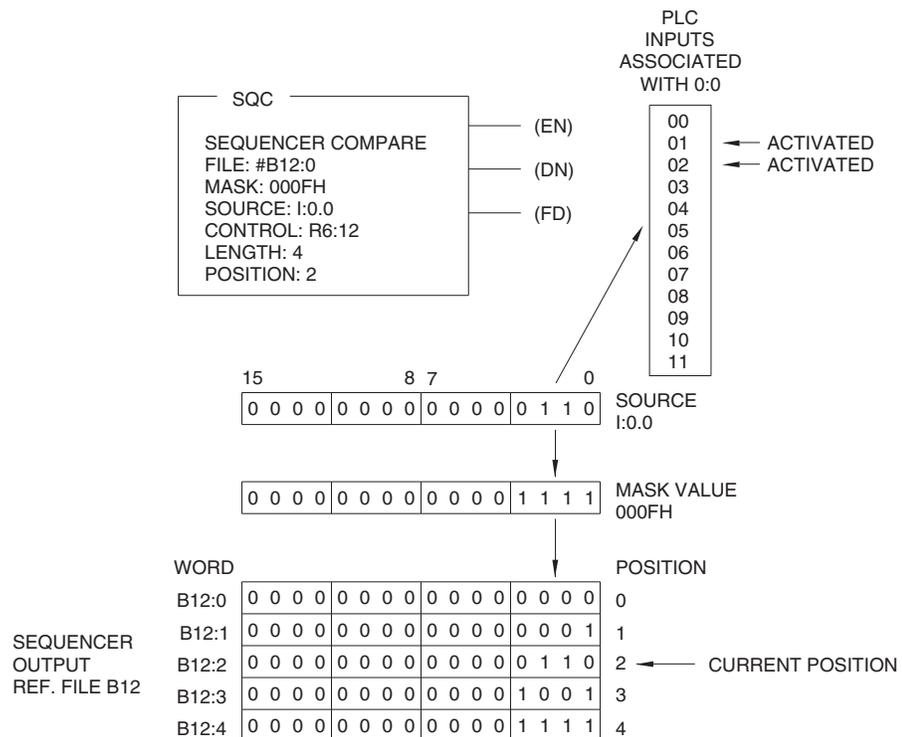

Figure 7-2. Operation of the SQC instruction.
Figure 7-2 shows how the SQC instruction works. When the rung containing the SQC instruction goes from false to true, this instruction steps to the next position in its sequencer file (file B12). The bits in the sequencer file are programmed to monitor PLC inputs 0 through 3. They are compared, through the mask value (000FH), against the bits at the source address (I:0.0) for equality. When all the non-masked bits at the source address match the bits in the reference word of the sequencer file, the Found (FD) bit of the sequencer instruction is set to logic state 1. When the bits do not match, the FD bit is set to logic state 0.
In Figure 7-2, for example, the SQC instruction is at position 2 of its sequencer file. Consequently, the word of data stored at address B12:2 is compared, through the mask value, against the bits at source address I:0.0. Since PLC inputs 1 and 2 are activated, the bits at addresses I:0/1 and I:0/2 are set to logic state 1. Since bits 0 through 3 of the mask value are set to logic state 1, bits 0 through 3 at source address I:0.0 are non-masked. Consequently, all the bits at source address I:0.0 match those of the reference word at address B12:2, causing the FD bit to be set to logic state 1.